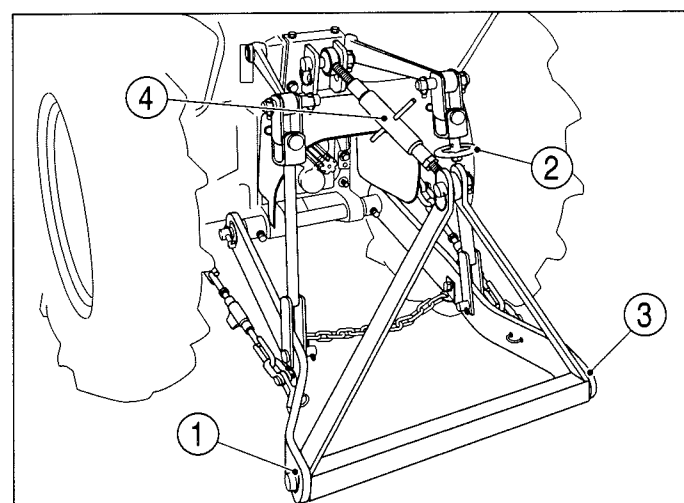

FIG. 62
FIG. 62: Slide the ball end of the left lower link (1) over the implement pin and secure with a linchpin. Adjust height of the right lower link using the turn buckle (2). Attach and secure the right lower link (3) to the implement with a linchpin. Attach the top link (4) to the top of the implement hitch frame using the pin supplied with the tractor. Rotate the centre barrel section of the top link, to lengthen or shorten it, and level the implement from front to rear. After the implement is attached, it can be readjusted for level op-